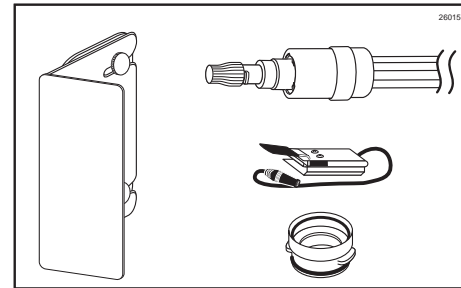

Figure 39
11. The following do not need to be sanitized on a daily basis. However, inspect these areas and if necessary, clean according to instructions in the SCHEDULED MAINTENANCE section: (See Figure 39.)